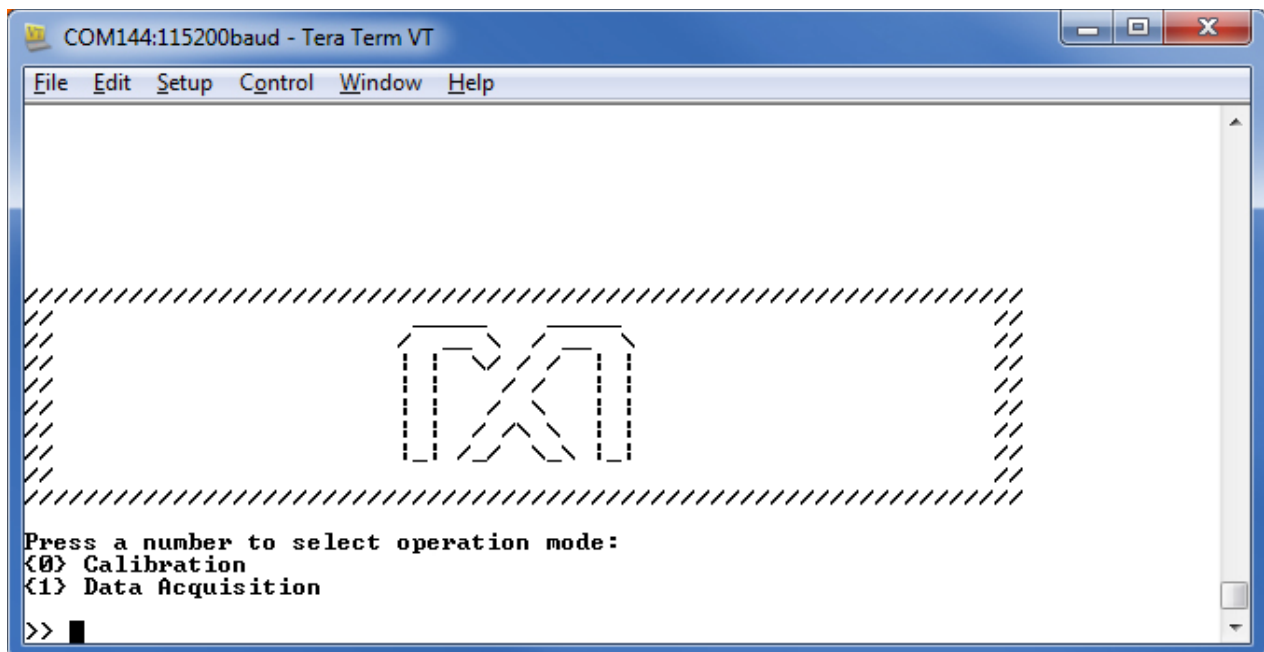

Figure 5. Terminal program main menu.
6. The MAXREFDES67# software will display a menu (**Figure 5**)